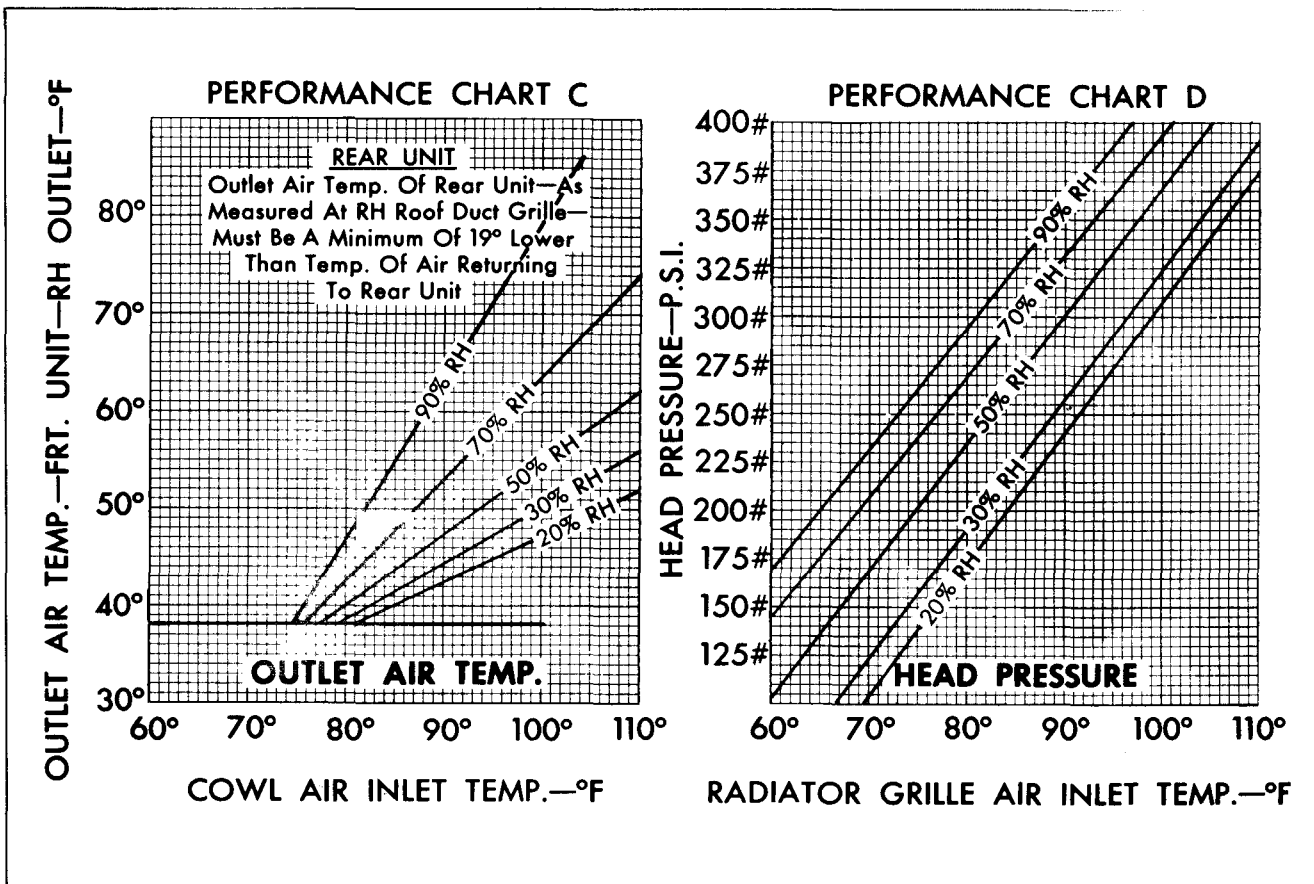

Fig. 1-115 A/C Performance Chart
20. Refer to Chart C, Fig. 1-115 to determine if outlet air temperatures are normal. If outlet temperatures are the same or below reading on chart, operation is normal.
21. Refer to Chart D, Fig. 1-115 to determine if head pressure is normal. If head pressure is within 30 pounds below reading on chart, operation is normal.